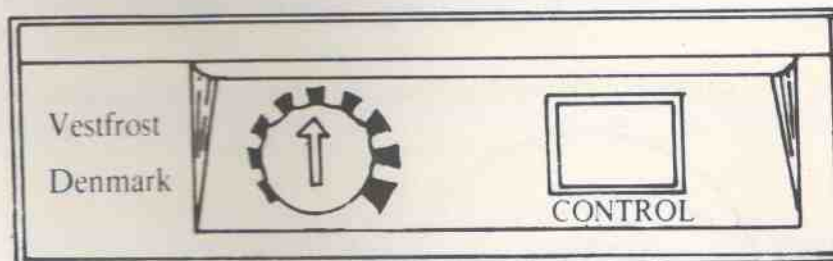

Fig. 14
- (a) In most probability, it will be observed that the cabinet temperature has gone **lower** than the required range. Turn the thermostat knob anti-clockwise to a lower setting (Fig: 14). (you can start with setting '4') Observe for several hours. Select more lower setting, if required, until the required temperature range is obtained and the same remains steady.